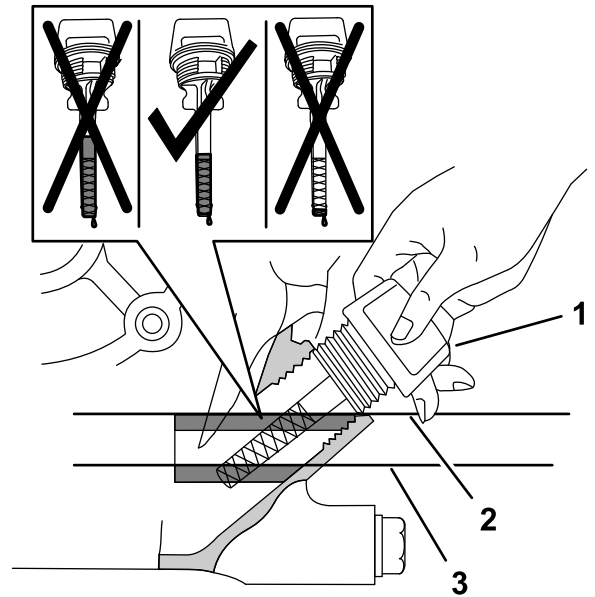

Figure 72
5. Insert the dipstick from the engine as shown in Figure 72.
6. Remove the dipstick from the filler neck and look at the oil level in the dipstick (Figure 72).
Note: The engine oil level must cover the hatch-marked area of the dipstick (Figure 72).